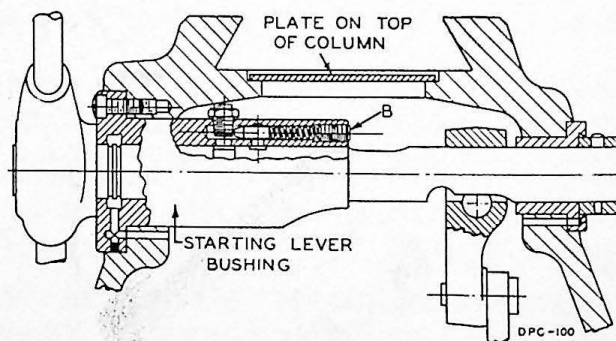

FIGURE 30
2. Pull overarm forward to uncover plate on top of column, Figure 30. Remove this plate.
3. Remove first of two $\frac{3}{8}$ " hollow headless set screws in the end of starting lever bushing at "B", Figure 30.
4. Turn second screw at "B", Figure 30, in to increase pressure. Pressure should be 290 lbs. to 310 lbs. Replace locking screw.